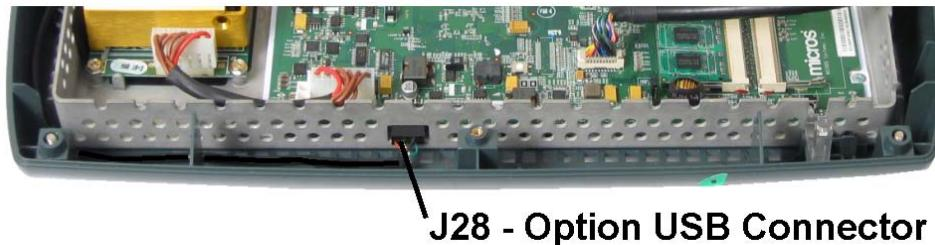

Figure 3-31: USB Option Connector J28
1. Refer to Figure 3-31, below. If the finger print reader or other option is installed in the top cover, place it directly behind the base. Run the interface cable on either side (left side is preferred) of the chassis but make sure it stays below the chassis lip. Connect the cable to USB Option Header J28.